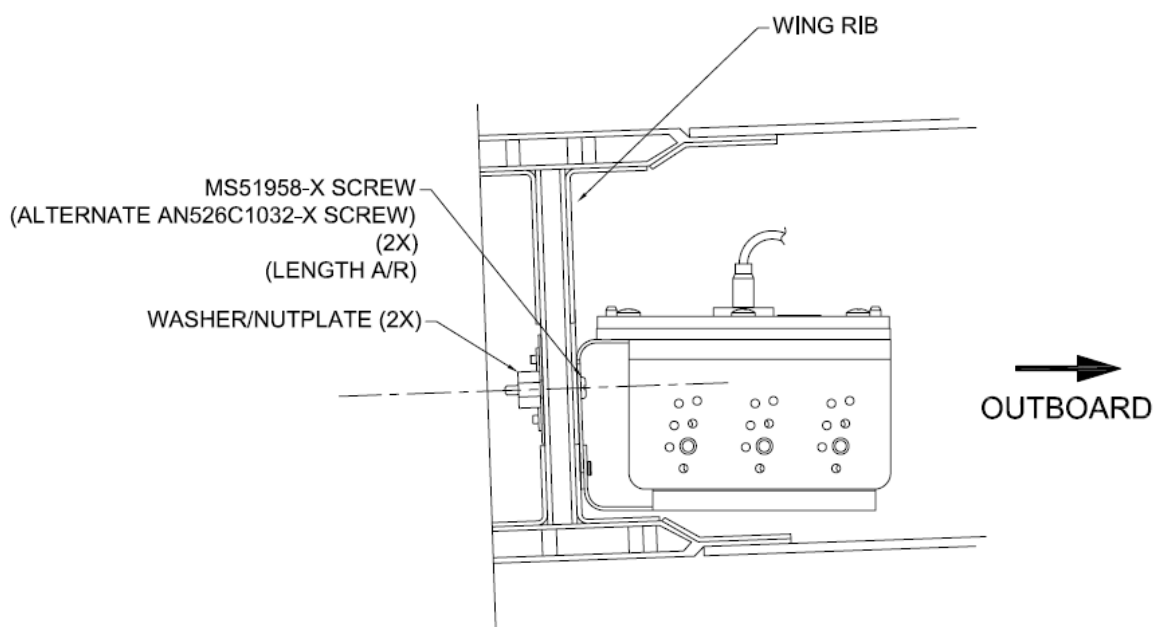

Figure A-18 Magnetometer Assembly attached to Wing Rib
16. Attach GMU assembly to wing rib as shown in Figure A-18.